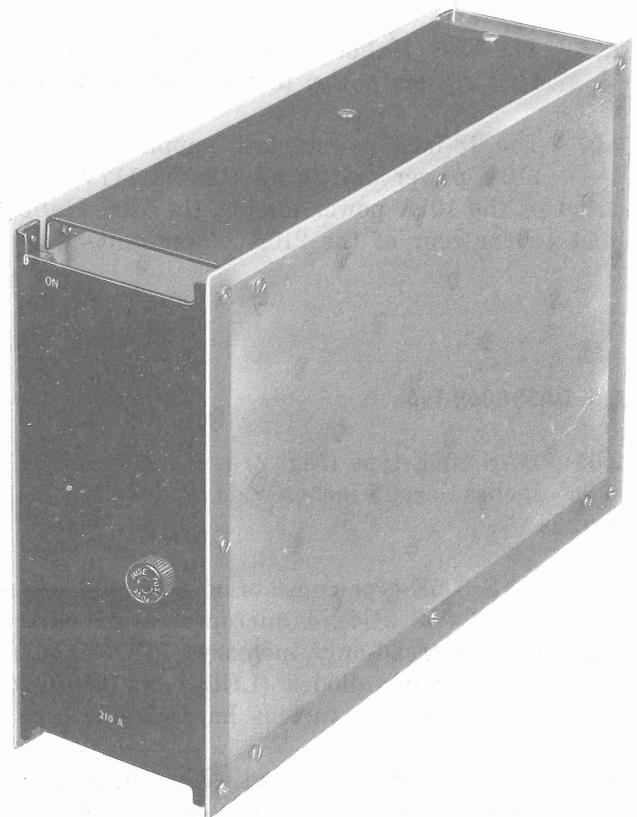

Fig. 1—210A Power Unit
2.01 The 210A power unit (Fig. 1) is 8 inches high, 12 inches deep, 3 inches wide, and weighs 6 pounds. It mounts in a 41-type data mounting.